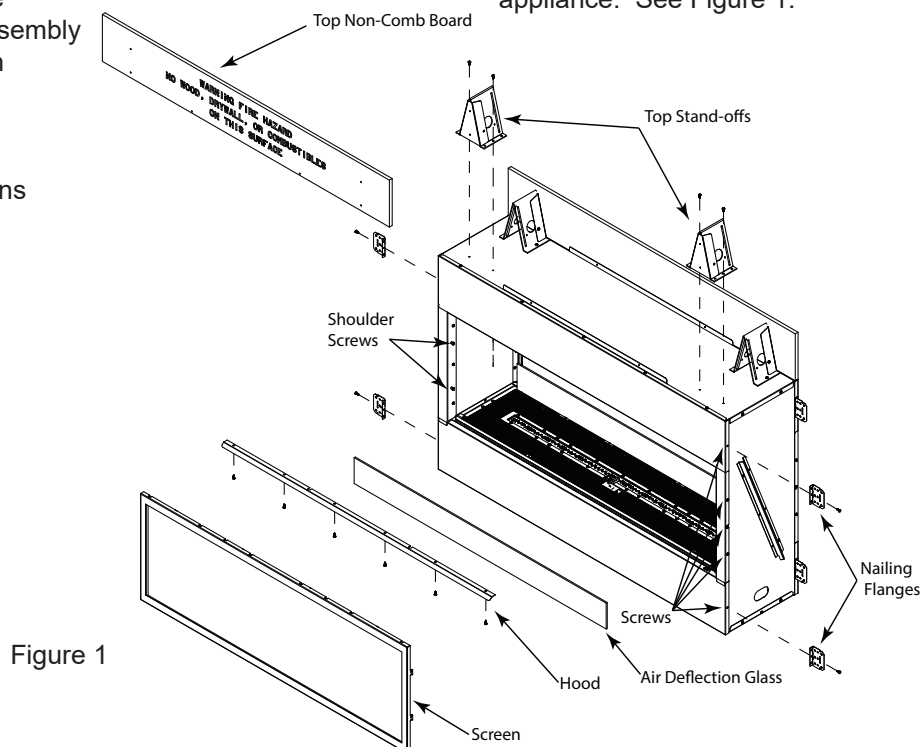

Figure 1
3. Remove the top non-comb board, top stand-offs, screen, nailing flanges and hood from the outdoor side of the AVFLST48N(P)IP appliance. See Figure 1.
4. Remove the four shoulder screws from the columns and discard. See Figure 1.
5. Remove the screws from the left and right side of the appliance. See Figure 1.